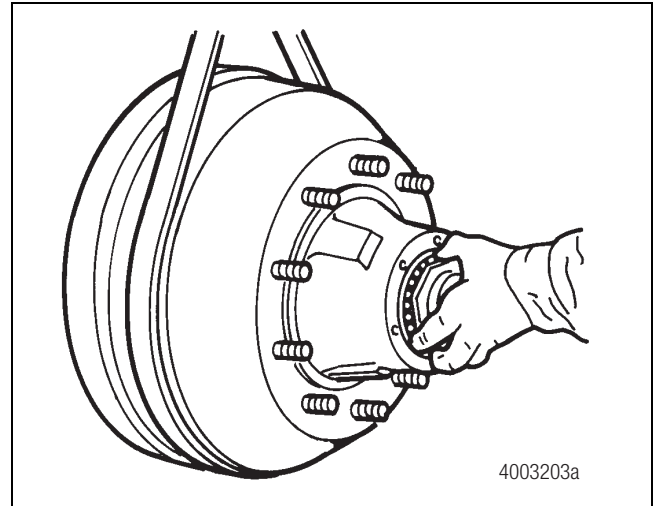

Figure 5.12
6. Install the outer bearing cone, then tighten the adjusting nut until it is snug against the outer bearing cone. Remove the hub support so the hub rests on the bearings. Figure 5.12.